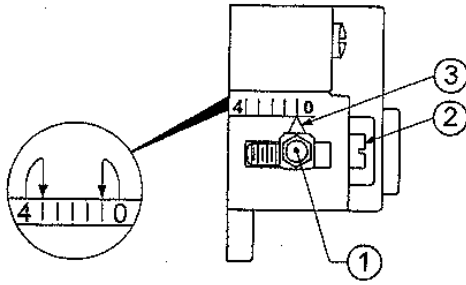

Figure 8: Riello Turbulator Setting
- f. Turbulator Setting, refer to Figure 8.